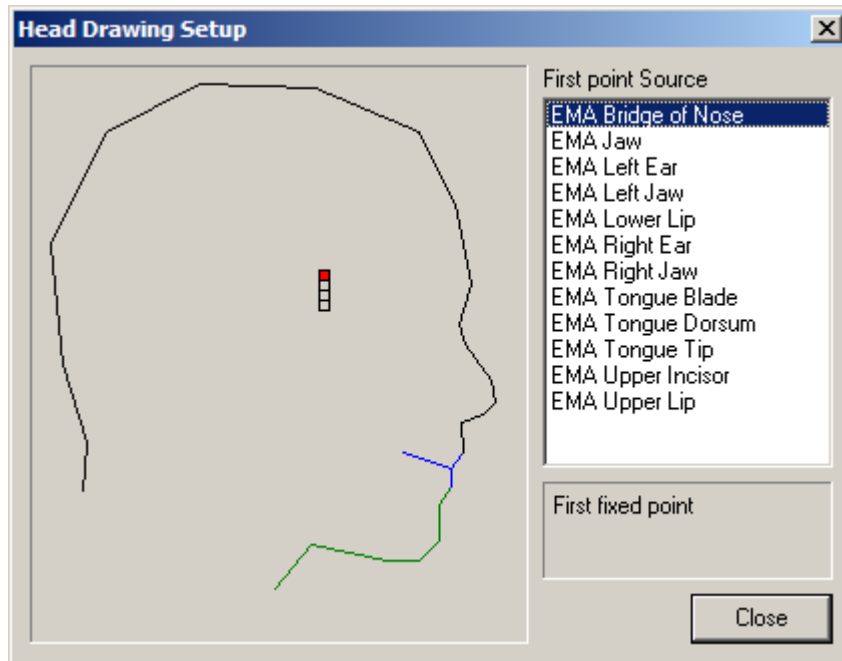

Figure 10 Head Drawing Setup Dialogue
- a. Click and drag the highlighted marker labelled 'First fixed point' to the Bridge of the nose on the outline of the head and click on the analysis value named Bridge of nose. (see Figure 10).